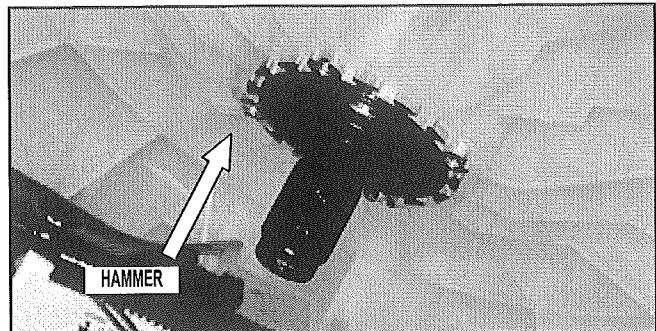

FIGURE 7
- Remove drive shaft and seal (with hammer). See *Figure 7*.